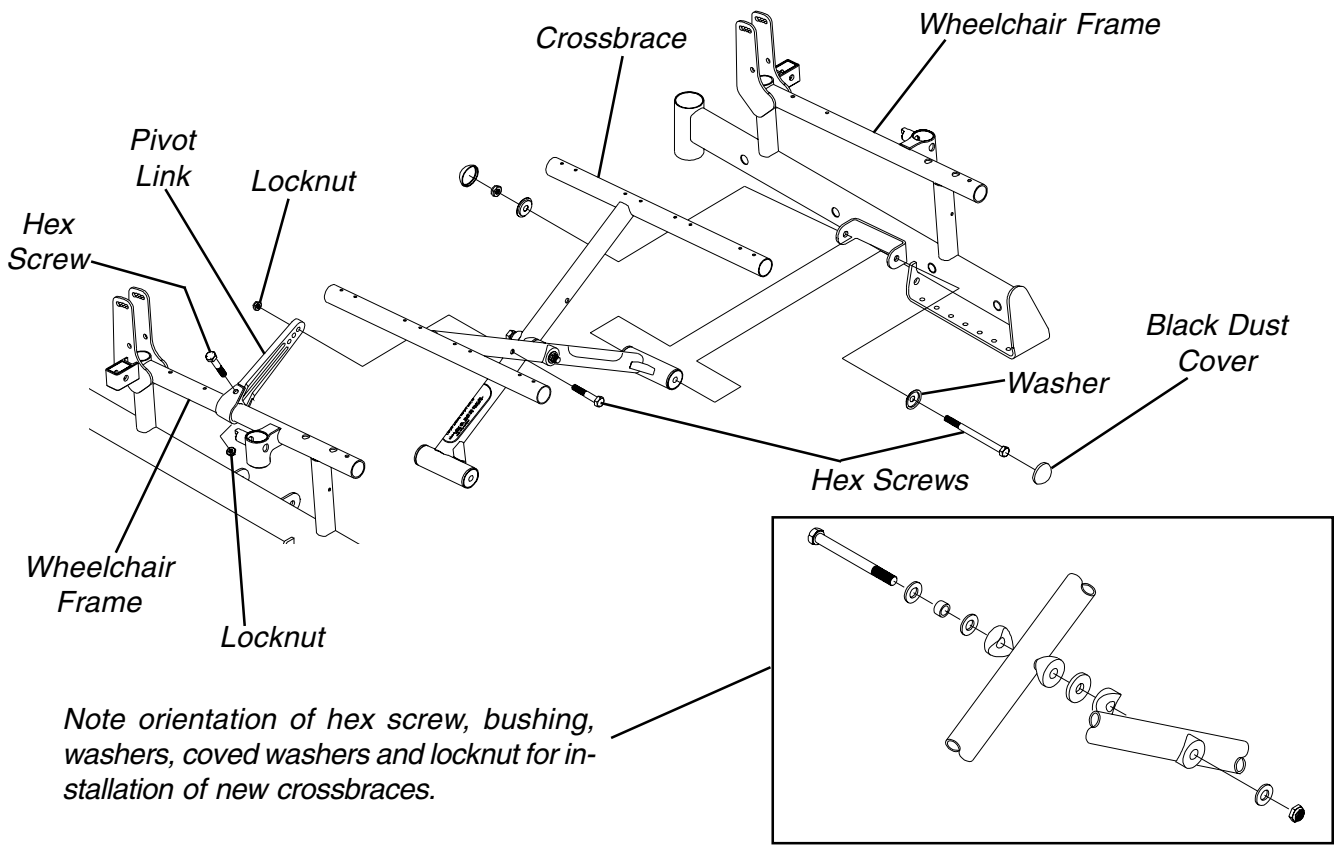

FIGURE 1 - ADJUSTING SEAT WIDTH
(FIGURE 1)**
- Assemble the two (2) new crossbraces together. Refer to FIGURE 1 for hardware orientation.
- Reinstall the hex screws, washers and locknuts that secure the bottom of the two (2) new crossbraces to the wheelchair frame and tighten.